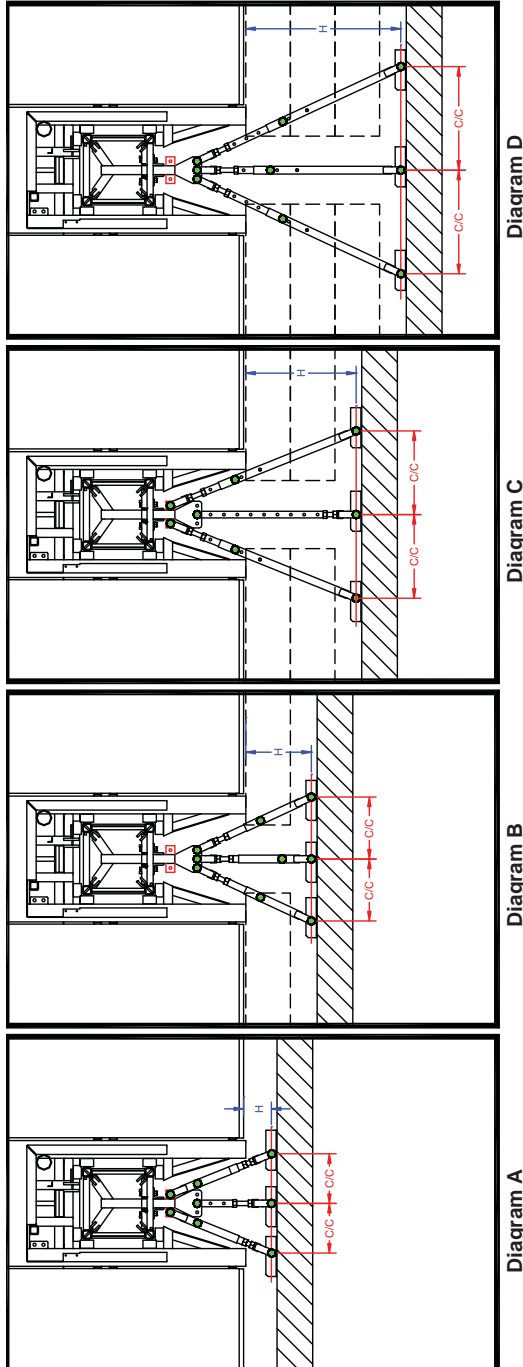

Fig. 5.7
- 4- Refer to the diagrams illustrated in fig. 5.7, on p. 33, for the plank configuration appropriate to the setup. Refer to the *Wall Tie Components Requirements* table in fig. 5.8, on p. 34, and choose the components required according to the plank configuration.